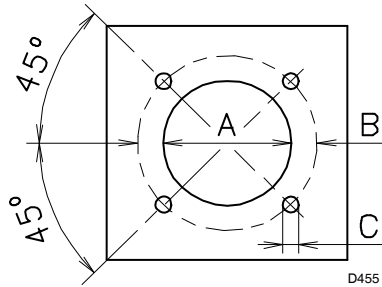

Fig. 6
5.3 Boiler plate (Fig. 6)
Drill the combustion chamber locking plate as shown in (Fig. 6). The position of the threaded holes can be marked using the thermal screen supplied with the burner.